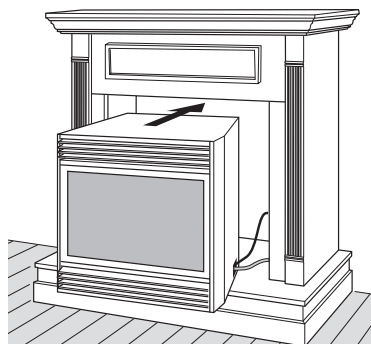
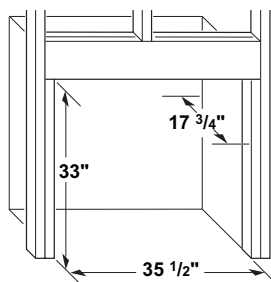
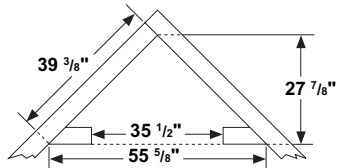

Figure 12 - Inserting Fireplace Into Cabinet Mantel
Figure 13 - Rough Opening for Installing in Wall
Figure 14 - Rough Opening for Installing in Corner
1. Frame in rough opening. Use dimensions shown in Figure 13 for the rough opening. If installing in a corner, use dimensions shown in Figure 14, Figure 12, for the rough opening. The height is 33" which is the same as the wall opening above.